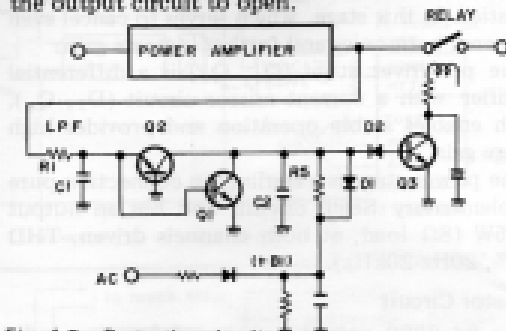

Fig. 4-5 Protection circuit
With reference to Fig. 4-5 when the power supply is turned on, if there is no input (DC) on Q_1 and Q_2 , they will be off, and the timing capacitor C_1 charges up through R_1 and thus Q_2 turns on. When Q_2 conducts, the relay operates, and the output muting on the power amplifier will be removed.